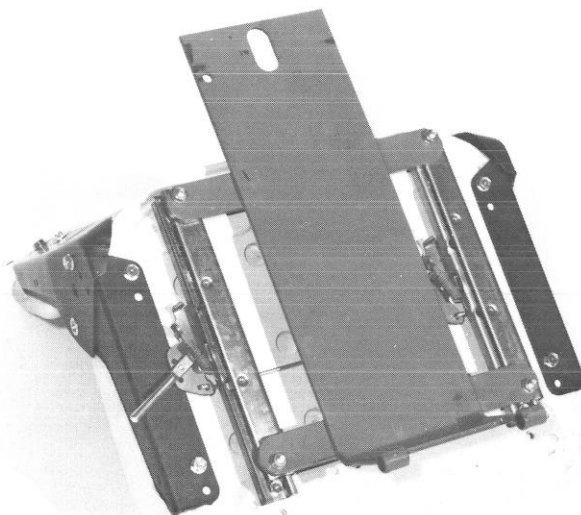

Figure 7
5. Slide threaded studs, at front and rear of seat slide channel, through holes in seat support. Secure channels in place with lockwashers and nuts (Fig. 7).